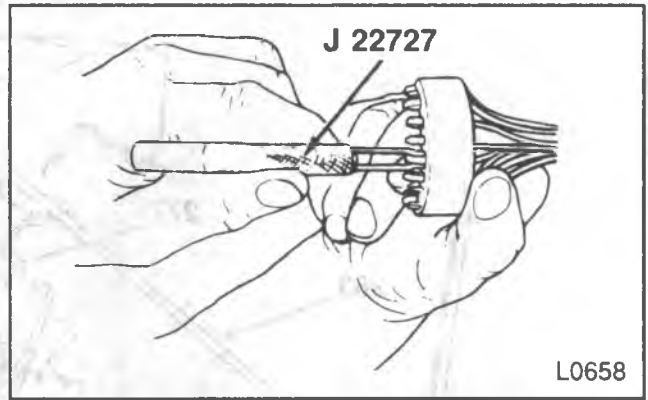

Figure 29—Connector Wire Removal
↔ Remove or Disconnect (Figure 29)
- Mark the location of each wire in the half-moon connector and then remove each individual wire from the connector. Use J 22727 (figure 29). Insert the tool into the lower end of the connector and push in until the tool bottoms on the connector. Remove the tool and then pull the wire from the connector.